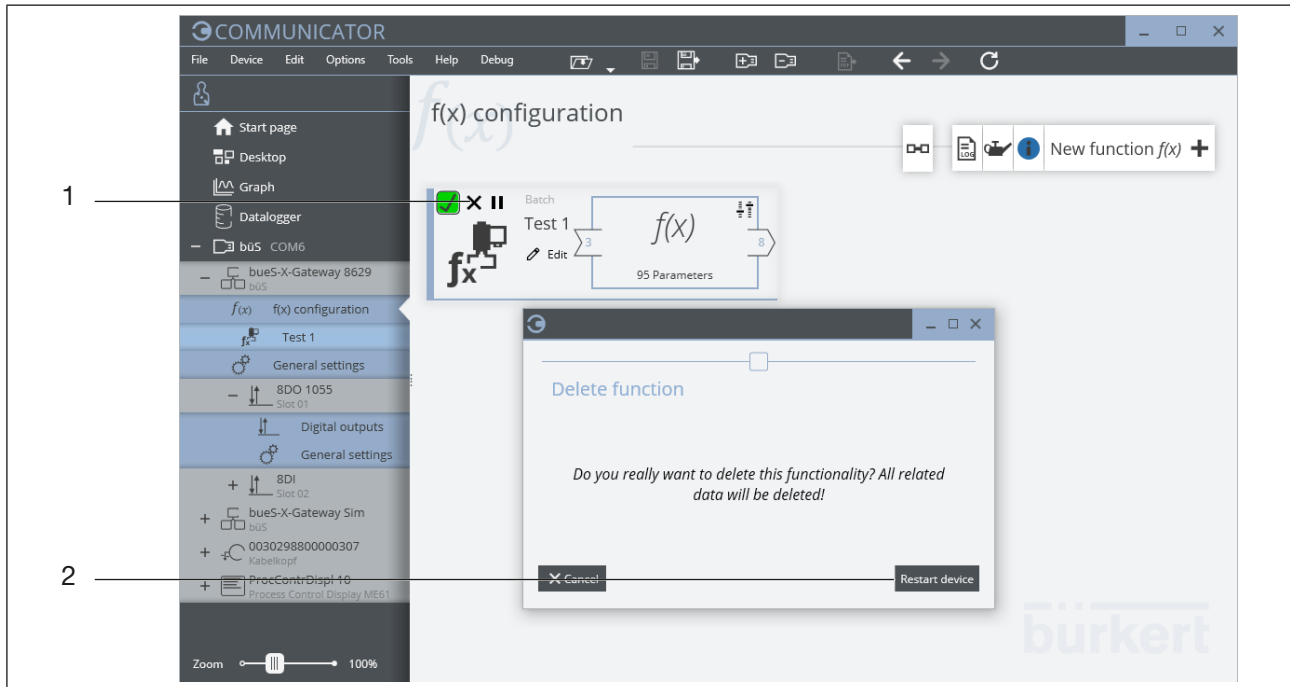

Fig. 29: Delete Batch Controller and restart device
→ Delete Batch Controller via “x” (1) and confirm device restart (2) (see “Fig. 29: Delete Batch Controller and restart device”).